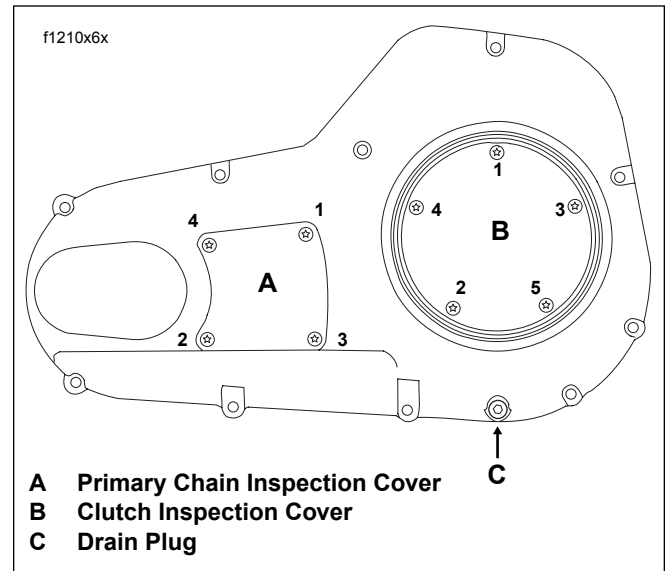

Figure 1-5. Primary Chaincase Cover
3. See Figure 1-5. Remove four T27 TORX screws to free the primary chain inspection cover from the primary chaincase cover.
7. Align holes in **new** gasket with holes in the primary chaincase cover. Install four T27 TORX screws to secure primary chain inspection cover to primary chaincase cover. Alternately tighten screws to 84-108 **in-lbs** (10-12 Nm) in a crosswise pattern. See Figure 1-5.
2. Remove magnetic drain plug at bottom of primary chaincase cover. Drain lubricant into suitable container. See Figure 1-5.
- e. Using a T27 TORX drive head, alternately tighten screws to 84-108 **in-lbs** (10-12 Nm) in the pattern shown in Figure 1-5.